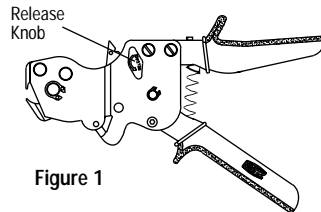
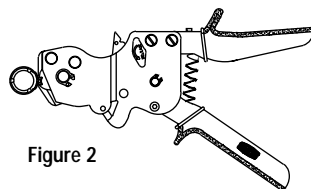

Figure 1
Figure 2
- Open the QCRTQCRM tool by turning the Release Knob counterclockwise (Figure 1). Place the jaws completely over the QickClamp pinch ear. With the tool at a 90° angle to the tube (Figure 2), close the tool by squeezing the handles together repeatedly until the LED light comes on. This may take 6-8 squeezes (Figure 3).